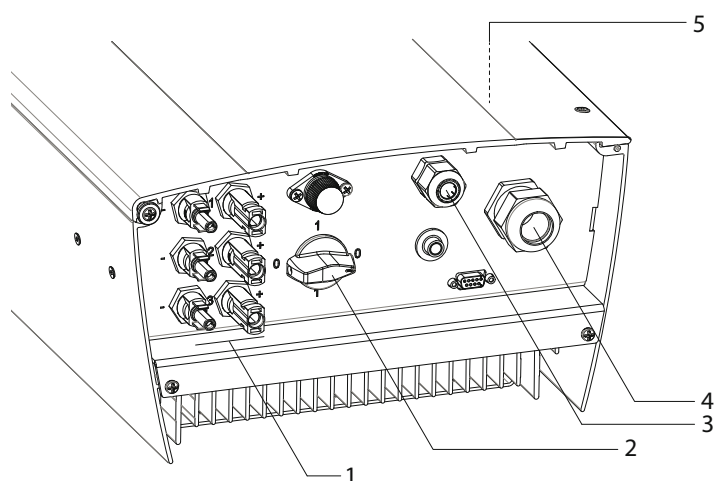

Figure 13: Connection area: Powador 2002-6002
9. Secure the inverter with safety catch. (See Figure 13 on page 22)
The grid connection cables are connected on the right in the connection area (see Figure 13 and Figure 14 on page 24).